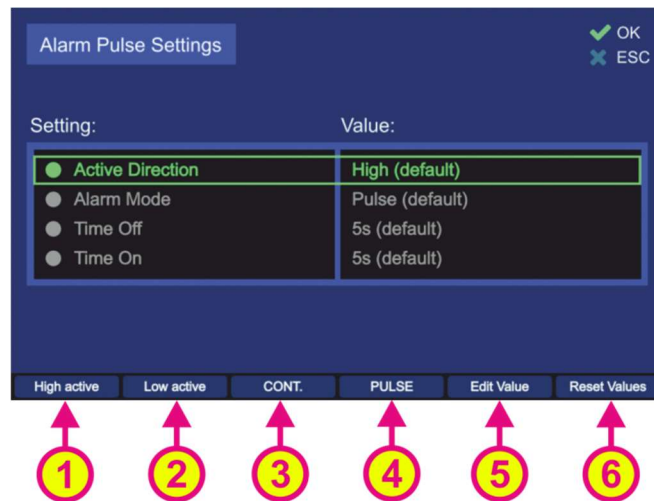
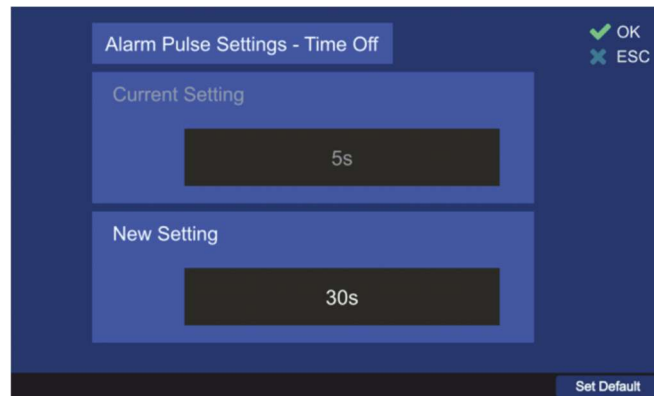

Figure 112. Alarm pulse settings
Figure 115. Time off Dialog
To change the single settings only the hotkeys for modifying the related values are used (s. Figure 112).
This setting is changeable using the hotkeys "High active" / "Low active" or "Edit Value" (s. Figure 112, numbers 1, 2 and 5), whereat using the first two hotkeys will change the value without opening the separate dialog.
This setting is changeable using the hotkeys "CONT." / "PULSE" or "Edit Value" (s. Figure 112, numbers 3, 4 and 5), whereat using the first two hotkeys will change the value without opening the separate dialog.
- To change the "Time Off"- time, press the hotkey "Edit Value" (s. Figure 112, 5). The related dialog will open (s. Figure 115).